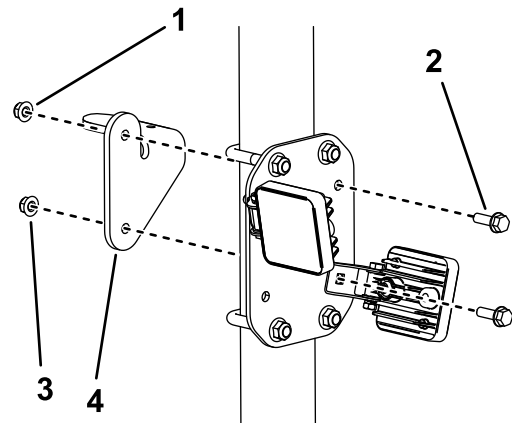

Figure 10
2. Assemble the beacon to the bracket and install the beacon assembly as shown in Figure 10.